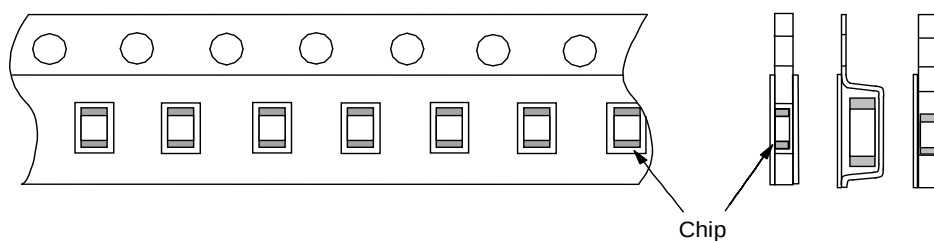

Fig.2 Dimensions of Reel
Fig. t:1.6mm (GCJ15:0.8mm)	Fig.2
1.11 Reel is made by resin and appeaser and dimension is shown in Fig 2.